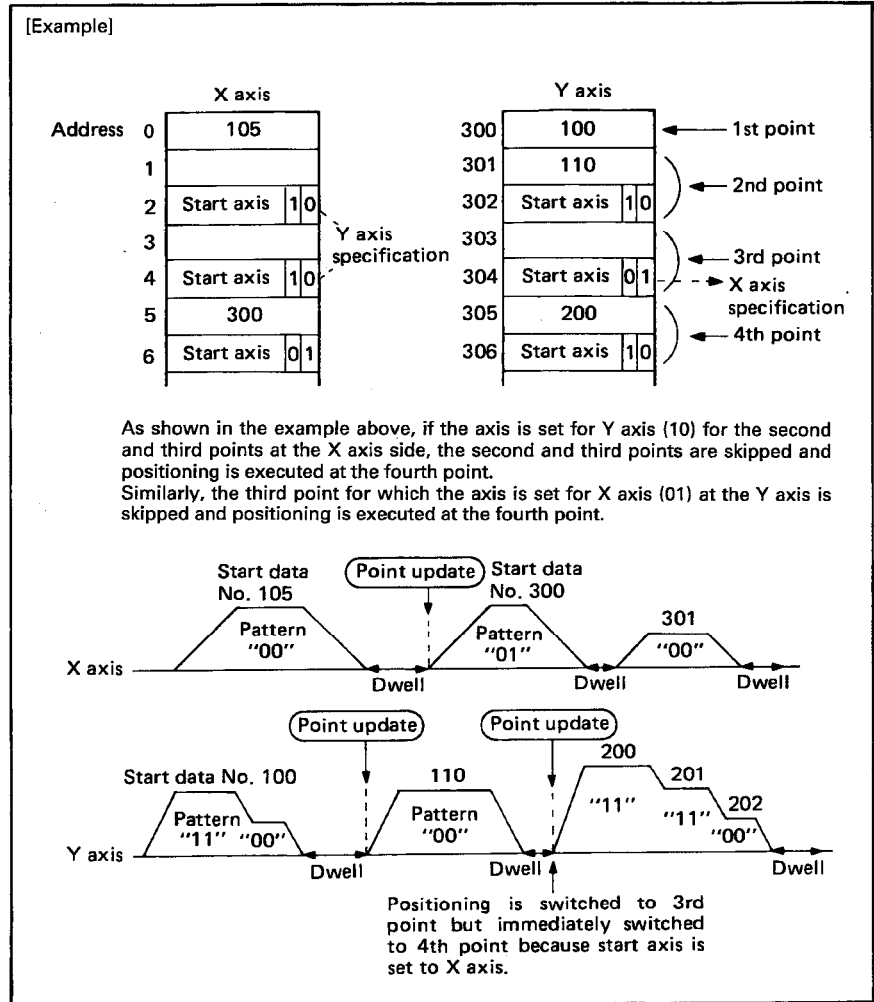

Fig. 3.32 Start Data Example 2
- 2) If the Y axis is set as the start axis (10) in the start data No. area for the X axis, the data of such a point is disregarded (positioning is not executed) and the control advances to the next point (See Fig. 3.32.). This is also true if the X axis is set as the start axis (01) in the start data No. area for the Y axis.